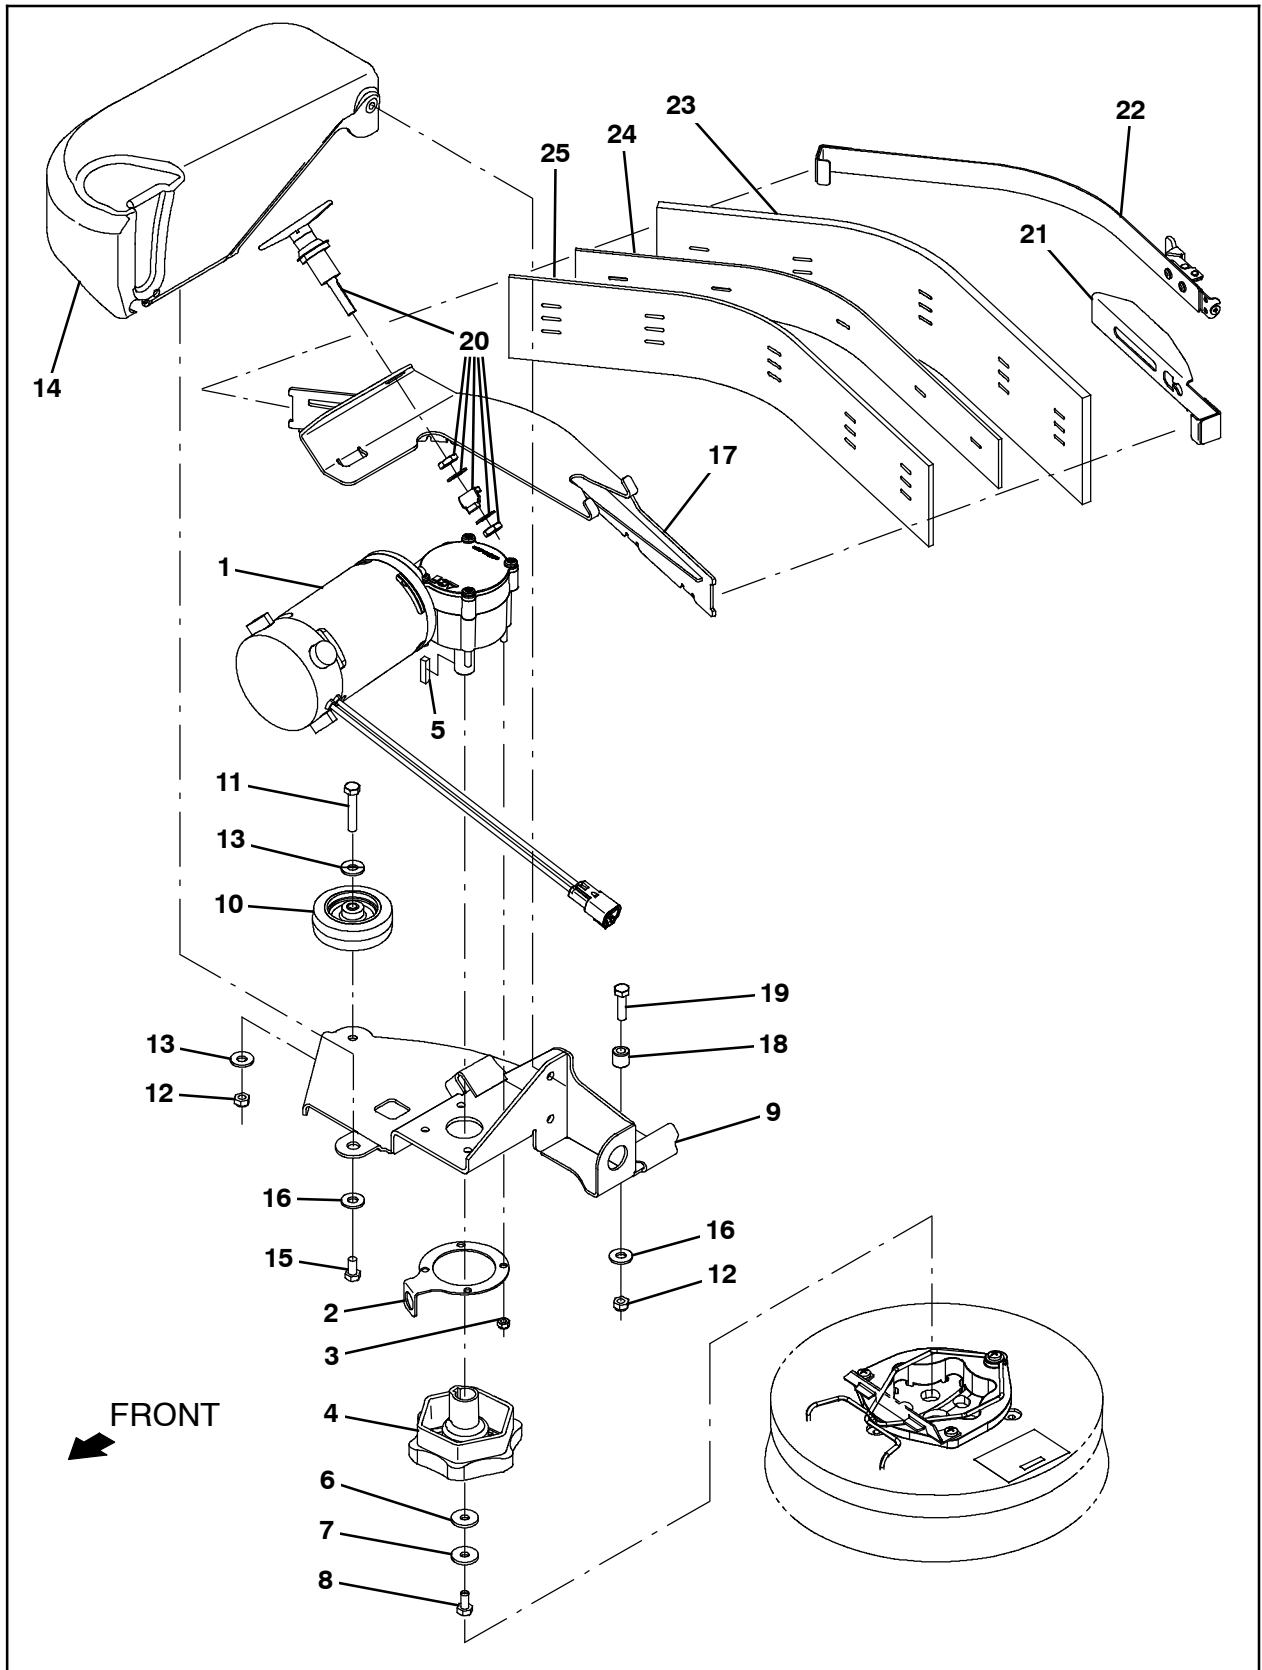

FIG. 32
- 59. Install the brush onto the side brush assembly. Refer to Operator Manual for instructions how to install side brush. (Fig. 32)